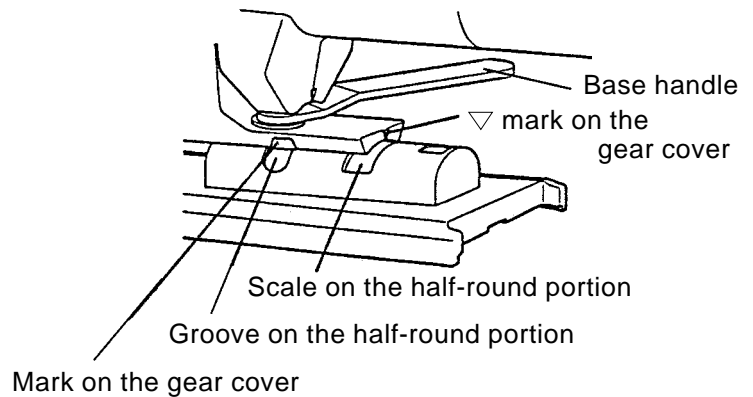

Fig. 2
- ② Move the base forward or backward if necessary. For bevel cutting, align the horizontal groove on the half-round portion of the base to the mark on the gear cover to incline the base. The base can be inclined to either side (right or left) up to 45°. The half-round portion is calibrated from 0° to 45° in increments of 15°. The base can be easily inclined by adjusting the ▽ mark on the gear cover to the desired calibration (Fig. 2).